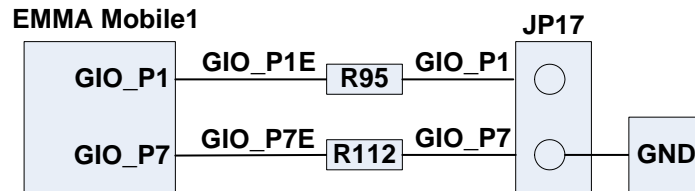

Figure 6-5 The Hardware Connection without Synchronous High Interrupt
(1). Connect the GIO 7 to GND as figure 6-5.